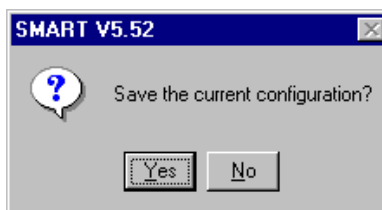

Figure 4-42
- Press Yes. The save message appears (Figure 4-42).